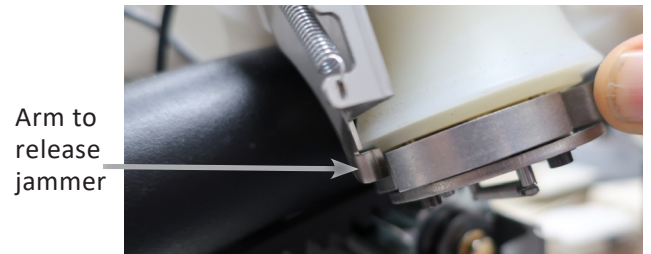

Figure 3-43
2. To activate the overspeed, if you move the arm it will release a jammer that will go between the gear rack and the sprocket, and the limit switch will remove power. *See Figure 3-43.*